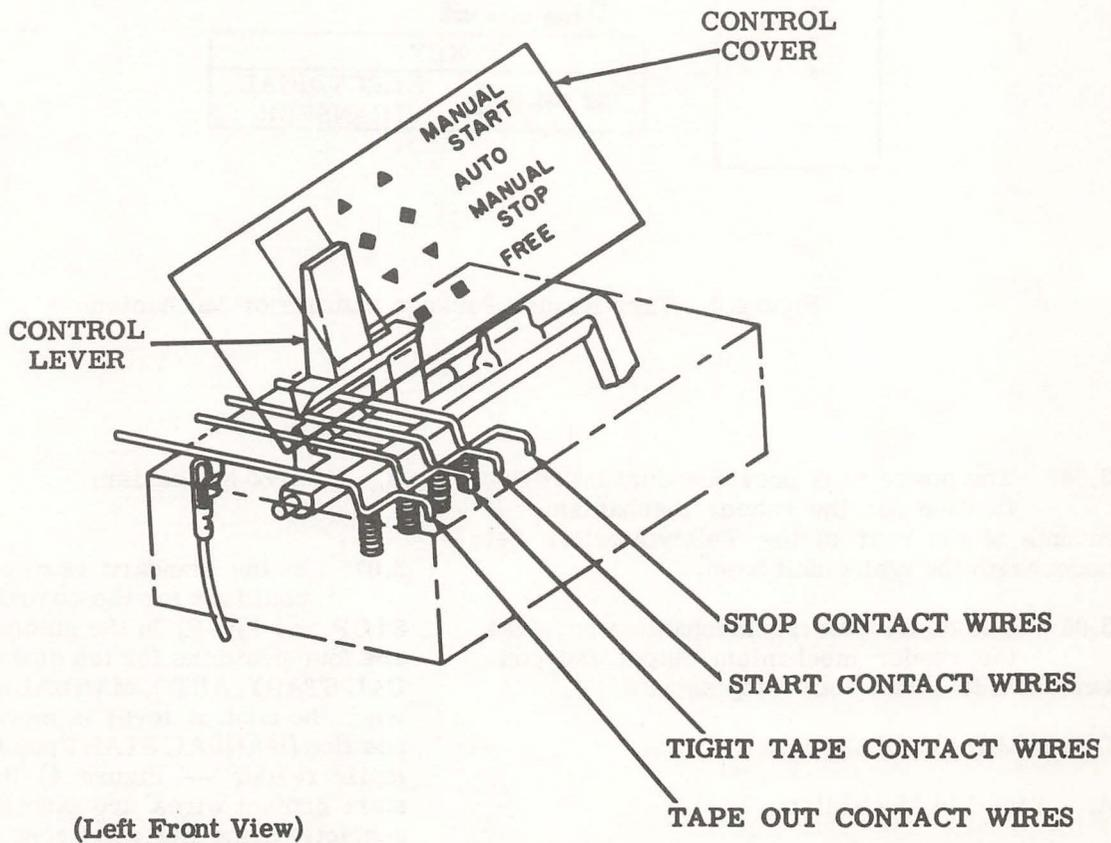
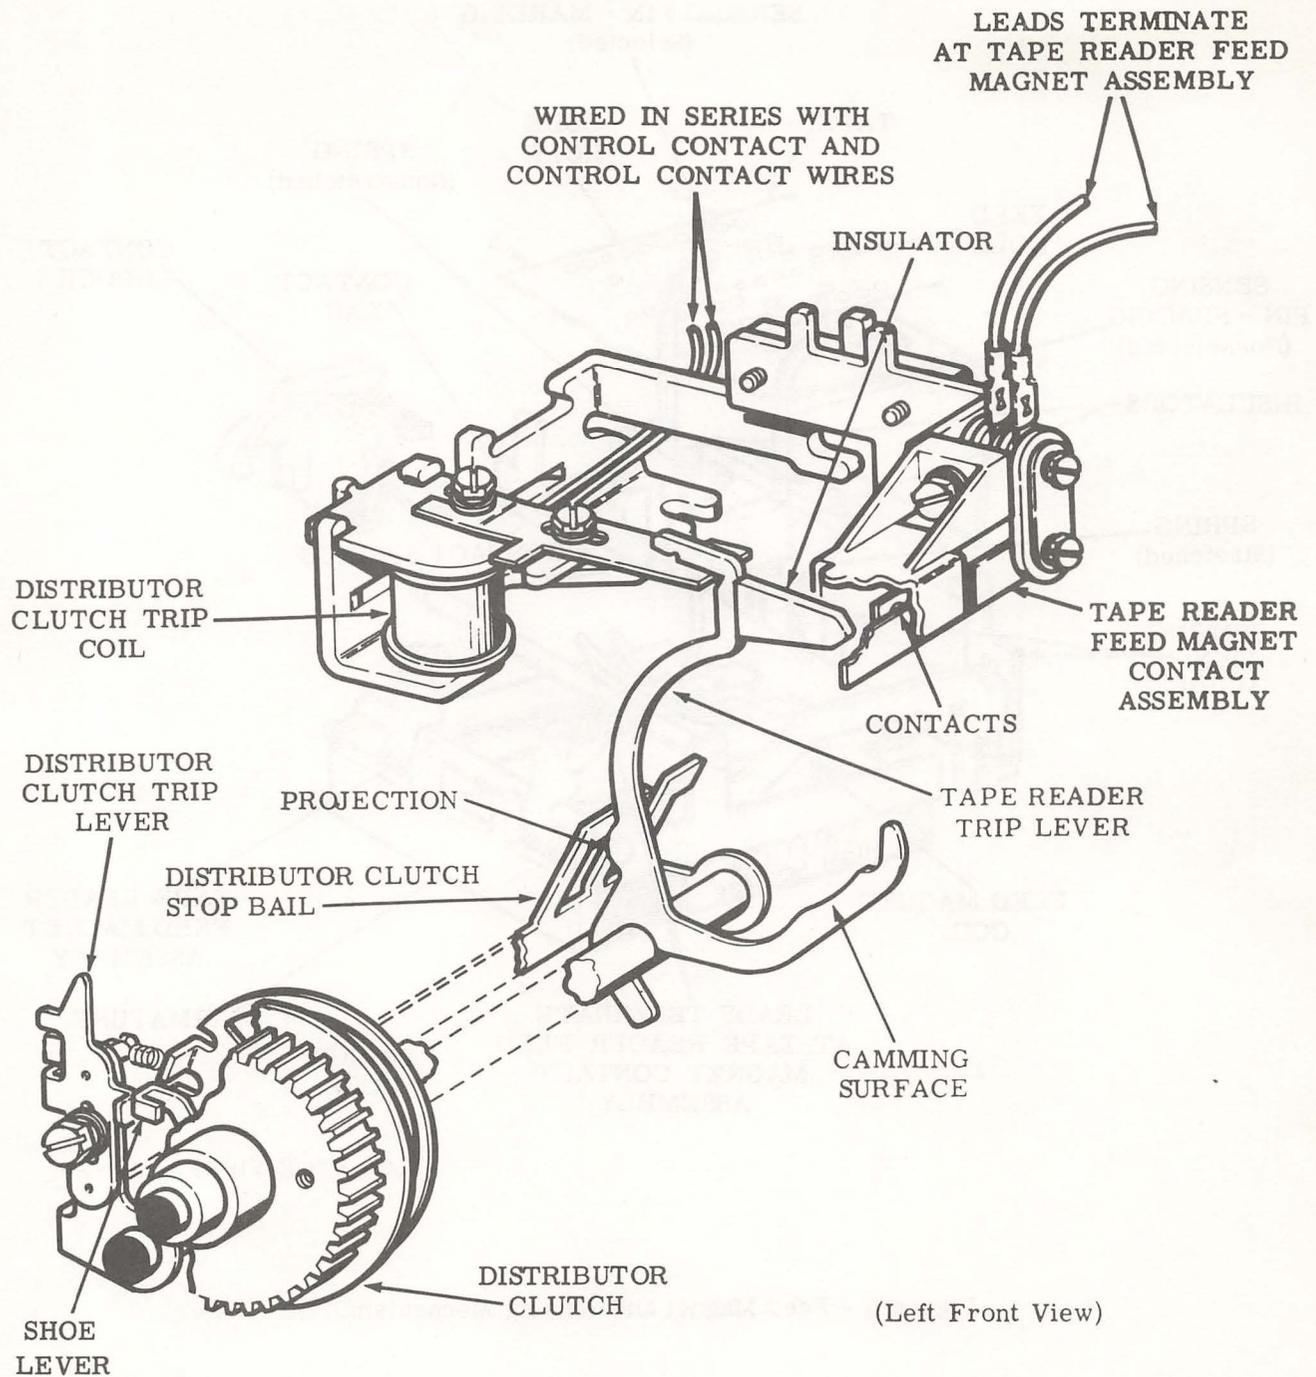
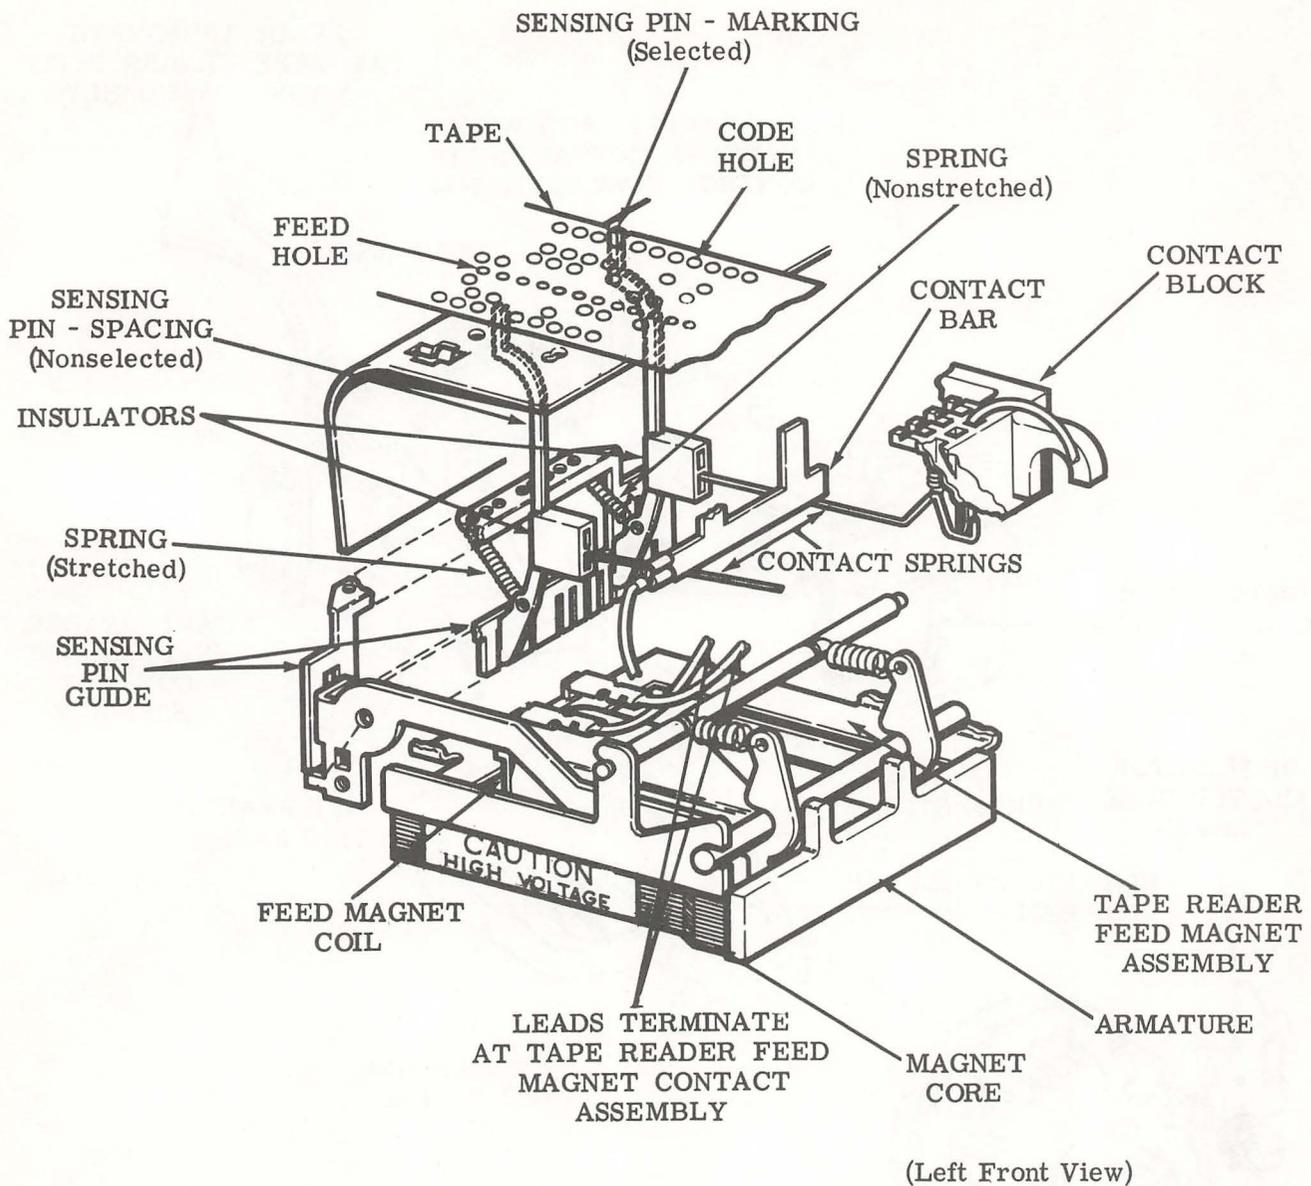

Figure 4 - Control Mechanism
Figure 5 - Distributor Trip Mechanism
Figure 6 - Feed Magnet and Sensing Mechanism
3.07 In the standard reader there are three positions for the control lever: **START**, **STOP**, and **FREE**. In the automatic reader there are four positions for the control lever: **MANUAL START**, **AUTO**, **MANUAL STOP**, and **FREE**. When the control lever is moved to the **START** position (**MANUAL START** position for the automatic reader — Figure 4) the spring biased start contact wires are positioned on the start contact. Since the start contact wires and the start contact are wired in series with the distributor clutch trip coil in the typing unit, the coil energizes and releases the tape reader trip lever (Figure 5).
3.08 When released the tape reader trip lever performs two functions; it closes the tape reader feed magnet contact assembly and trips the distributor clutch (Figure 5). The reader feed magnet assembly is closed by an insulator
3.09 With the feed magnet contacts closed (Figure 5) the feed magnet in the reader mechanism is activated. The energized feed magnet coil attracts the armature (Figure 6). Rotating about its pivot the armature raises the armature extensions. Fastened to the ends of the armature extensions is a sensing pin guide.
3.10 In its upward travel the sensing pin guide carries with it eight spring-biased pins which sense the tape. Where a hole exists in the tape (marking) the sensing pin continues its upward travel and its associated spring remains unstretched. Where no hole exists in the tape (spacing) the sensing pin travel is blocked and its associated spring becomes stretched (Figure 6).